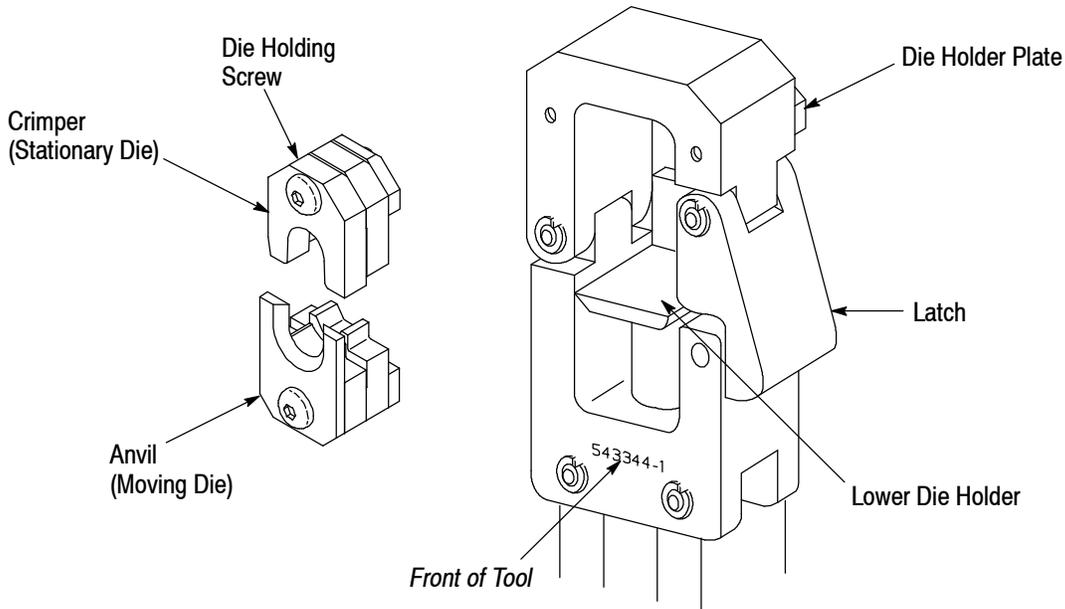

Figure 2
3.1. Installation (Refer to Figure 2)
NOTE  Each set of dies consists of an anvil (moving die) and a crimper (stationary die). Most moving dies have square corners and the stationary dies have chamfered corners. Refer to Figure 2. Exceptions to this feature will be shown on the instruction sheet packaged with the dies.